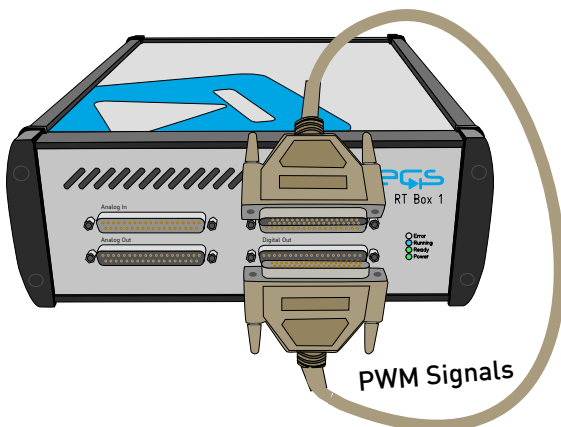

Figure 5: Hardware configuration for the real-time operation of the demo model
- Connect the Digital In interface to the Digital Out interface of the RT Box, i.e. by using a 37 pin Sub-D cable as shown in Fig. 5.